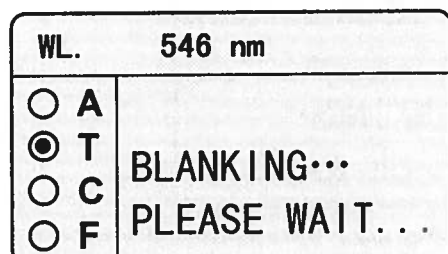

Fig. 4-5
- 3) Pull the Reference in the light path, press **▲** to calibrate 100%T (Fig. 4-5);